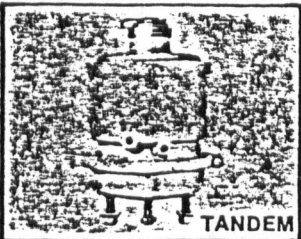
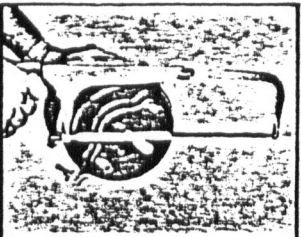

FIG. 2
FIG. 4
(2) REMOVE AND REPLACE "TANDEM" UNITS (Fig. 2)
- Follow procedure in (1) above.
- Before installing new tandem, make sure service push rod and clevis are the correct length. Field service units are furnished with an 8" rod. Cut rod same length as old unit (with spring brake power completely released) (Fig. 4). New service unit should have release bolt screwed out to check comparable lengths.